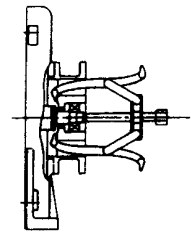

Fig.3
- (1) Remove belt ⑳, and remove blower pulley ⑰. (See “12. Instruction for belt tension Adjusting and/or belt Replacing”)
- (2) Remove the bare blower from the base. Stand the blower on a stand with the inlet side up. (Be careful not to tip over the blower during the work.)
- (3) Remove bearing cover ⑱.
- (4) Remove bearing nut ⑲ and bearing washer ⑳.
- (5) Remove the screw holding bearing box (inlet side) ③. Pull out both bearing ⑨ and bearing box (inlet side) ③ together. (Fig.3)
- (6) Pull off bearing ⑨ from bearing box (inlet side) ③. (Tapping bearing ⑨ with a hammer-handle from backside will help for easy removal.)
- (7) Remove fan case fastening bolts ⑳. Remove fan case (C) ⑦.
- (8) Remove fan stopper nut ㉑ and fan stopper washer ㉒.
- (9) Remove fan ①, deflector ②, fan case (B) ⑥ through the last fan in this order.